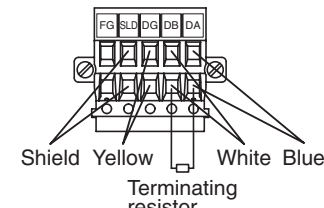

Fig.3
- (3) The terminating resistor to be connected differs depending on the cable used for the CC-Link system. (Refer to the following table and Fig.3)